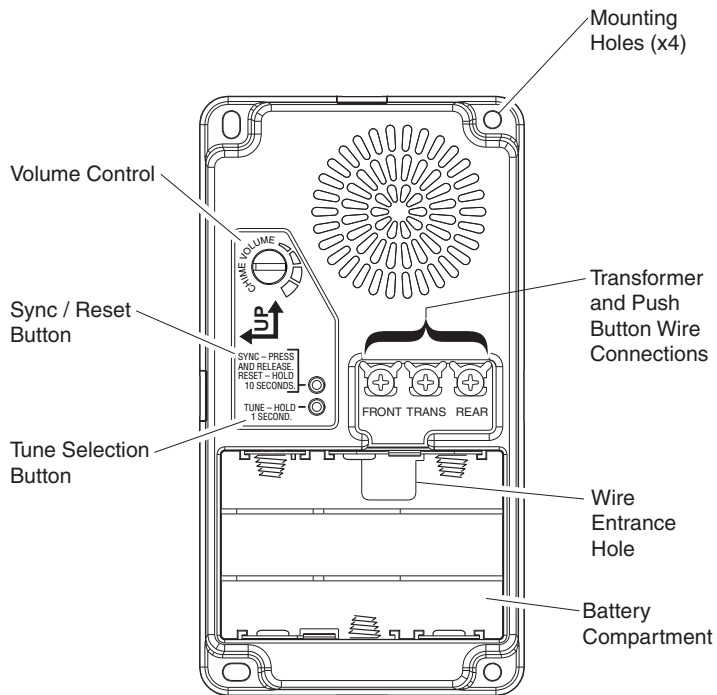

Figure 1
6. Determine proper chime base orientation (one arrow should be pointing up). The chime cover style may determine orientation (see Figure 1).